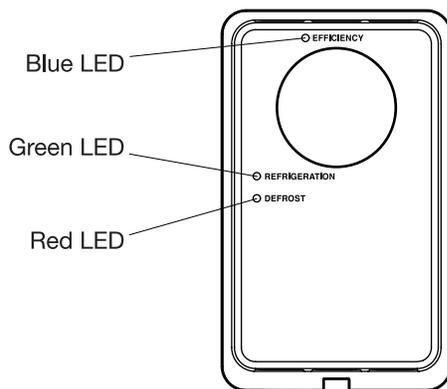
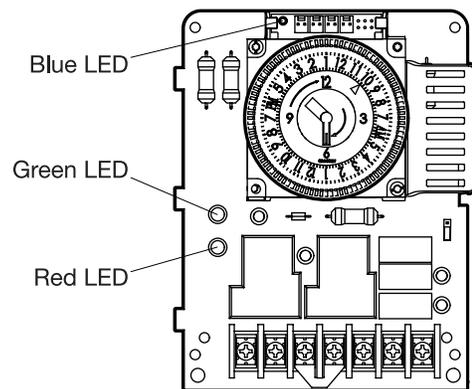

FIG. 8. LEDs (Enclosed Model Shown)
FIG. 9. LEDs (Bracket Model Shown)
5. See TABLE 1 and FIG. 8 or FIG. 9 to verify proper operation.